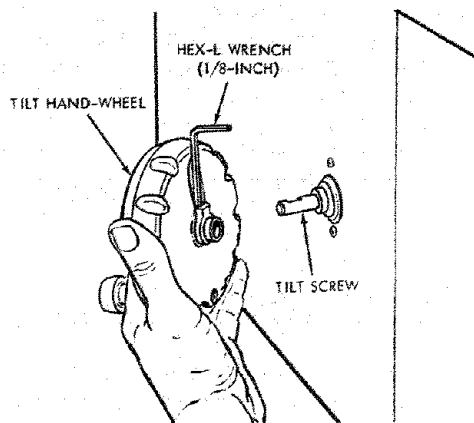

Figure 2
2. Install the tilt hand-wheel on tilt screw shaft and secure it by tightening the set screw with a 1/8-inch hex-L wrench. (See figure 2.) Use pliers on the hex-L wrench and tighten the set screw on the "flat" of tilt screw. Exercise care against over-tightening to avoid damaging the hand-wheel.